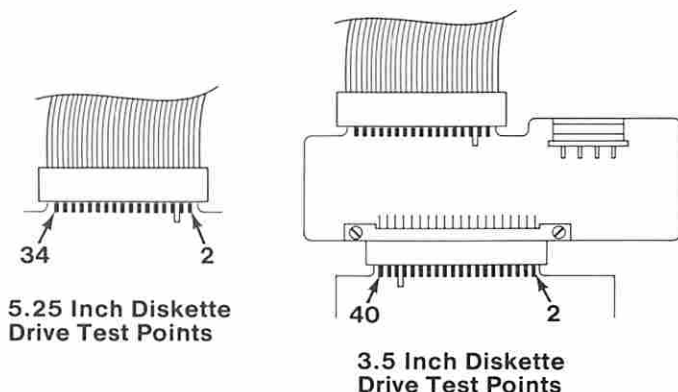

Figure 5. Voltage Check
- Power on the system and monitor the voltage at pin 24 on the diskette drive circuit board (Figure 5).